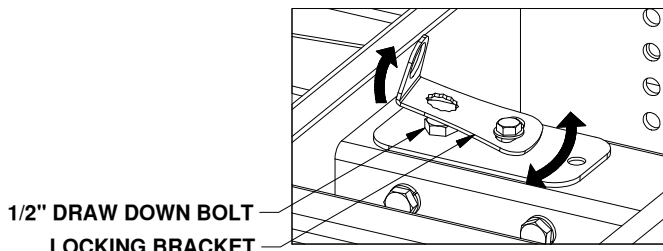

FIGURE C2: View of top of base.
6. Secure the base to the truck bed by **first** tightening the eight 1/2" cap screws attaching the socket post into the center of the base to 80 ft-lbs. **Second**, tighten the 1/2" x 3" draw-down bolt to 60 ft-lbs. Lock the draw down bolt in place by swiveling the locking bracket over the draw down bolt, see figure C2.